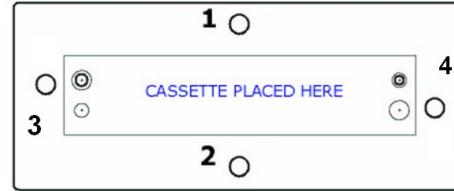

FIGURE 3
9. Using the calibrated torque wrench with a deep style socket, tighten each hex nut ¼ turn following the torque sequence illustrated in Figure 3 for a four bolt hardware. In ¼ turn increments, tighten the first, second, third, and fourth nut alternating back and forth until the torque wrench "clicks". Repeat this sequence until the wrench "clicks" without turning the nut. The "click" of the torque wrench indicates that the nut has reached the set point torque value.